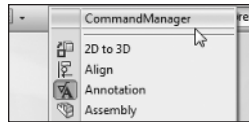

FIGURE 1.19 Accessing CommandManager from the menu bar
- Right-click the menu bar, and select CommandManager from the very top of the menu, as shown in Figure 1.19.